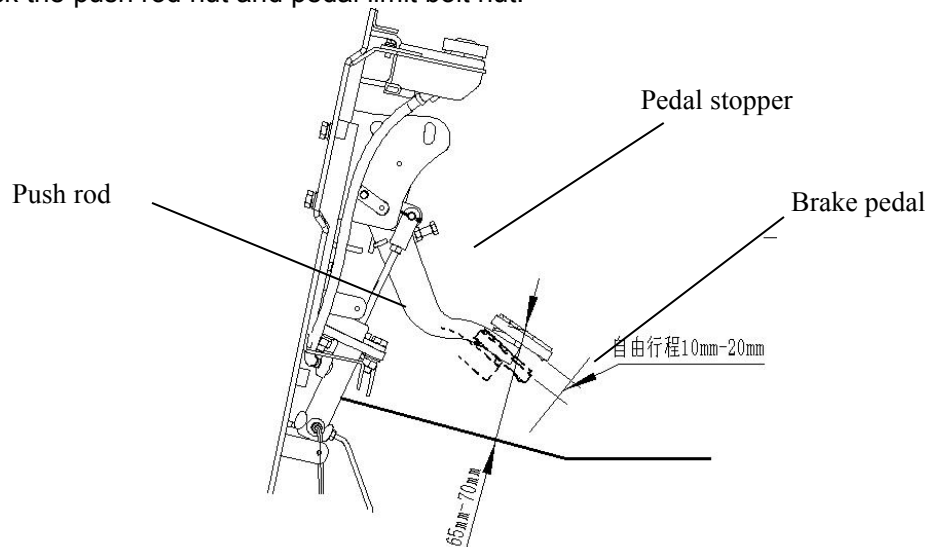

Figure 2-12
- (1) Shorten the putter;
- (2) Adjust the pedal limit bolt, as shown in Figure 2-12. (b) Adjust the pedal height;
- (3) Adjust the length of the push rod until the front end of the push rod contacts the piston of the main pump, and then retreat 1-2 turns to ensure that the free travel of the pedal is between 10mm-20mm;
- (4) Lock the push rod nut and pedal limit bolt nut.